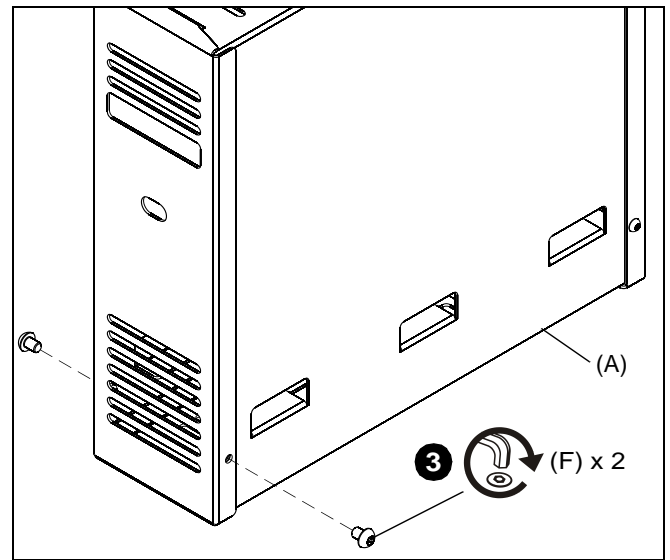

Figure 10
3. Fasten CMA-170 door closed with two 10-24 x 1/4" button head cap security screws (F). (See Figure 10)